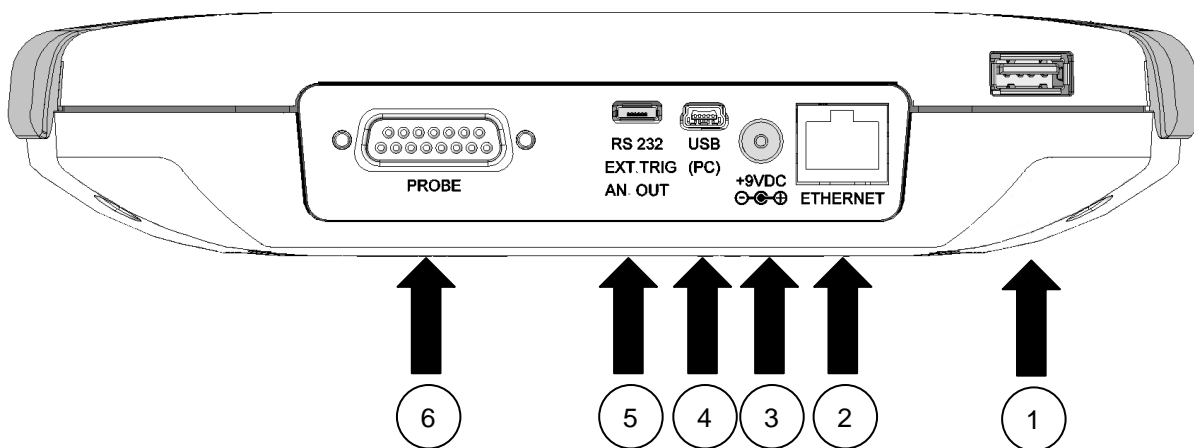
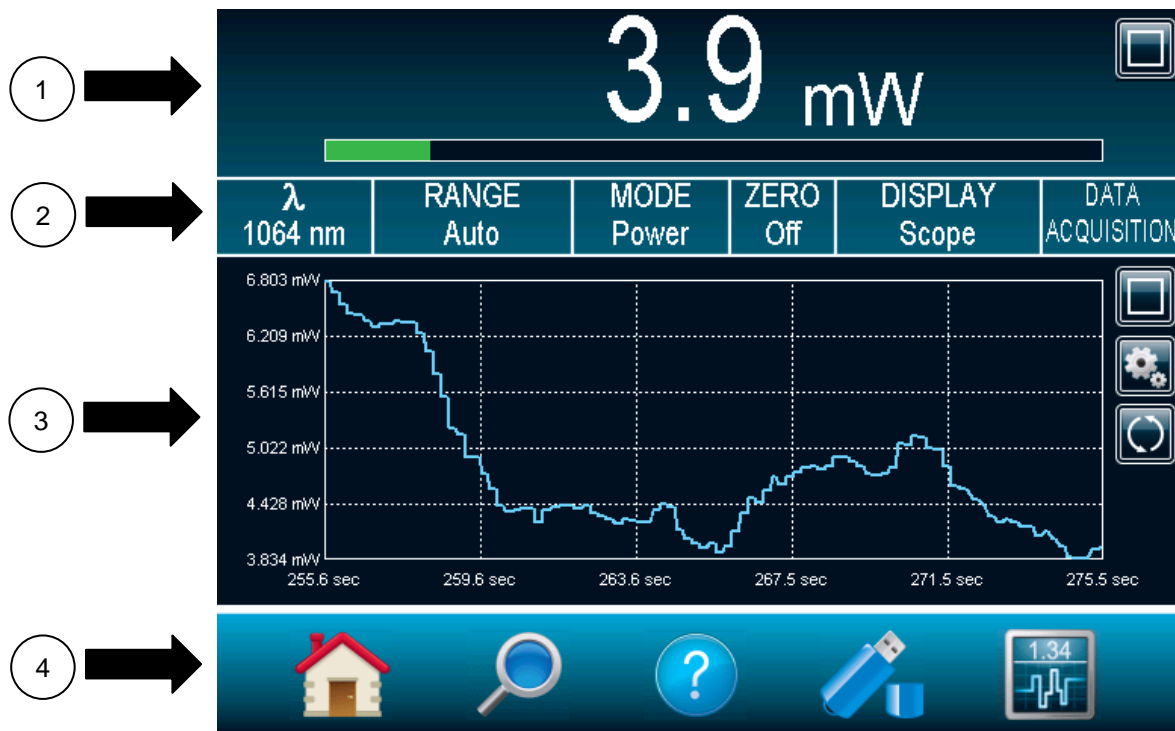

Fig. 1-2 11MAESTRO Top Panel
Fig. 2-1 11MAESTRO Start up window
The 11MAESTRO is delivered ready to use. Just insert a detector head in the Probe Input Jack (#6 in Figure 1-2) and press the I/O key. The following window will appear on the monitor (Figure 2-1). It is separated into four different areas.
- 3- **Turn the 11MAESTRO off** and connect a compatible power or energy detector head to the 11MAESTRO using the **PROBE INPUT JACK** (see Fig. 1-2). The 11MAESTRO allows hot-swapping between heads.
- 6- Power heads will default the 11MAESTRO to power measurement; energy heads will default the 11MAESTRO to energy measurement. The display will default to a dual display in real time and scope (Fig 2-1) in auto range mode.